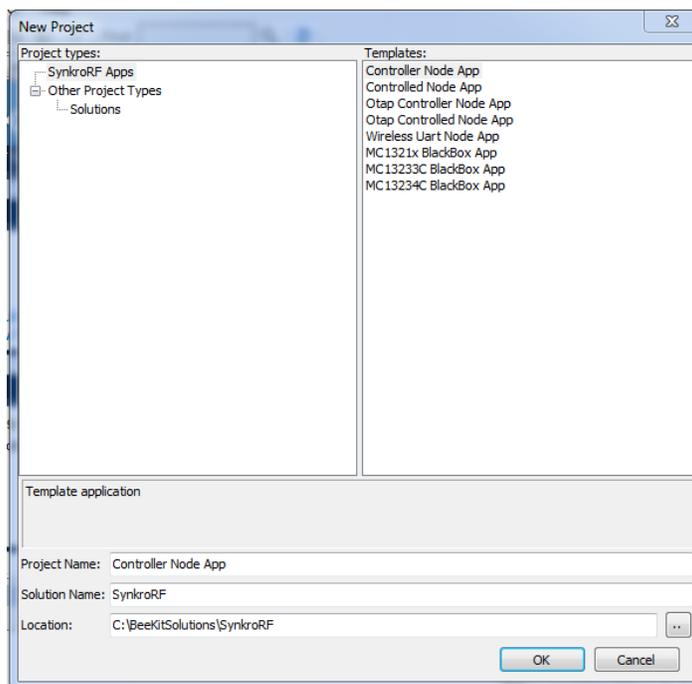

Figure 2-1. Project/Template Select
- As shown in Figure 2-1, select the Controller Node App template.